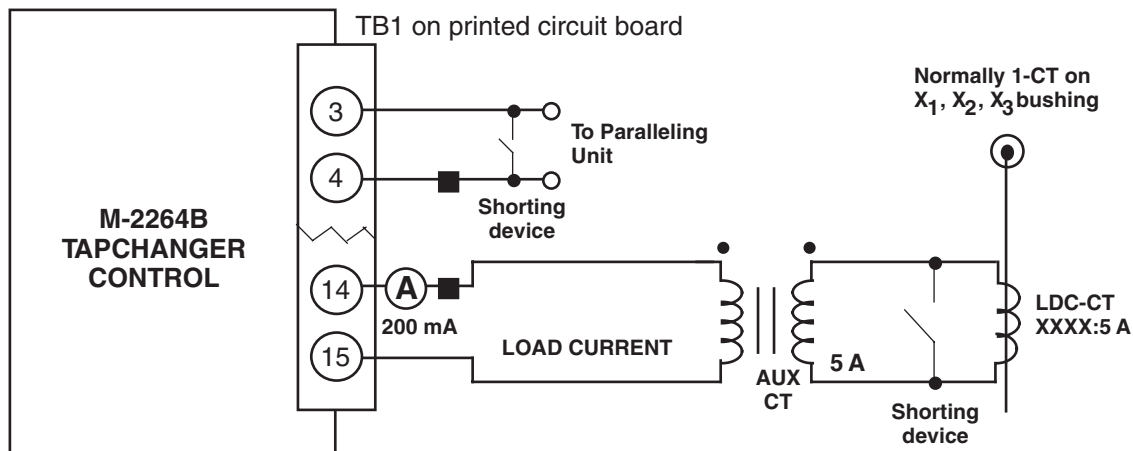

Figure 13 M-2264B Setup for Current Checkout Procedure
1. Short the line drop compensator circuit by placing a shorting device of adequate capacity, across the LDC-CT secondary (See Figure 13).